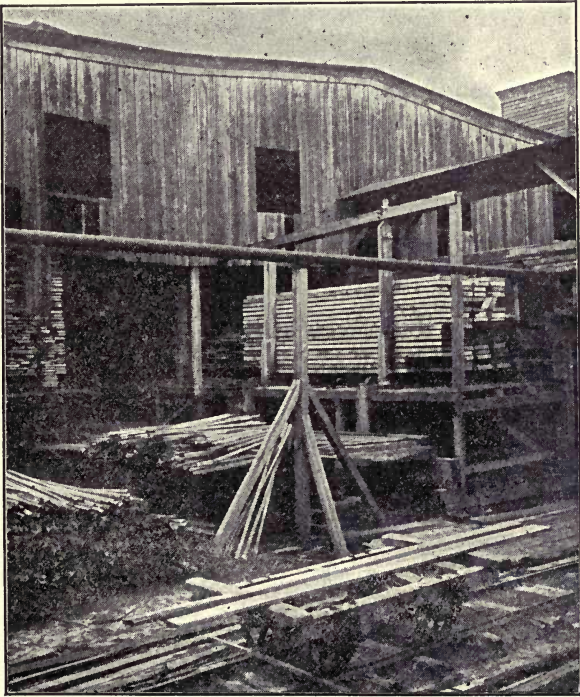

FIG. 192.—A Dry Kiln.
**448. Kiln-Drying.**—Lumber is kiln-dried (Fig. 192) when it needs to be seasoned quickly, or when the yard-owner does not wish to carry large stocks in his yard. A kiln is used also to dry partially air-seasoned, or even fully air-seasoned material, for special uses. The main problem in kiln-drying lumber is to prevent moisture from evaporating from the surface of the pieces faster than it is brought to the surface from the interior. When this happens the surface becomes considerably drier than the interior and begins to shrink and split. The evaporation from the surface of wood in a kiln can be controlled to a large degree by regulating the humidity and the amount of air passing over the wood. A correctly designed kiln, especially one for drying the more